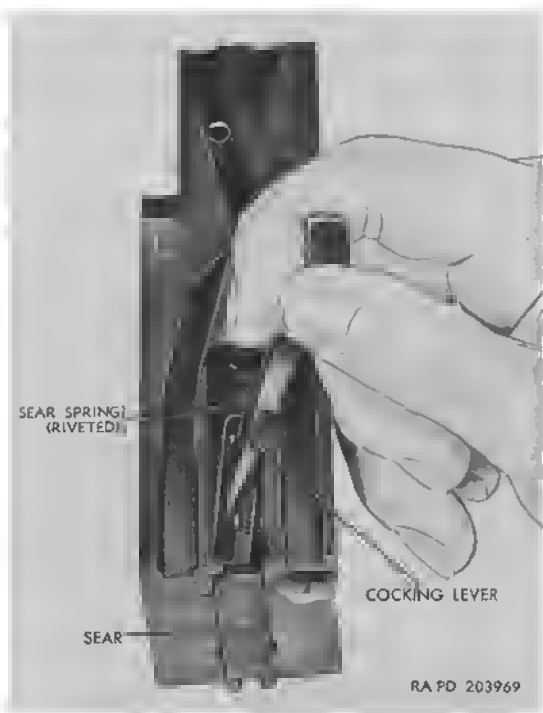

Figure 38. Removal of sear and sear spring.
c. Using the cocking lever as tool, rotate the sear spring (fig. 38) into the recess in the side of the bolt until it clears the sear. The sear is then free for removal.